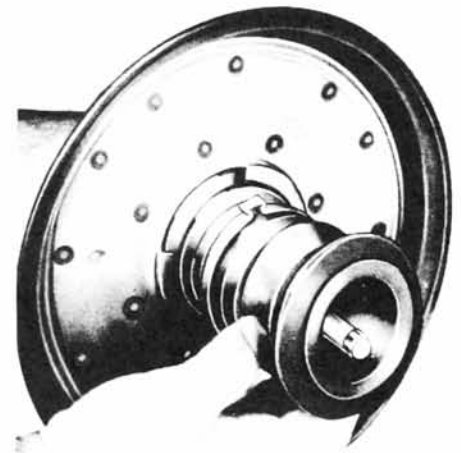

FIG. 23—Removing or Installing the Bellows Assembly
1. Remove the large bellows clamp and separate the bellows, bellows support rings, and bellows protector from the diaphragm and valve assembly (Fig. 23).
8. Assemble the bellows on the control hub so that the lip of the bellows indexes in the groove on the hub. Secure the bellows to the hub by assembling the large bellows clamp on the diaphragm end of the bellows approximately $\frac{1}{32}$ " from the end of the bellows (Fig. 23).